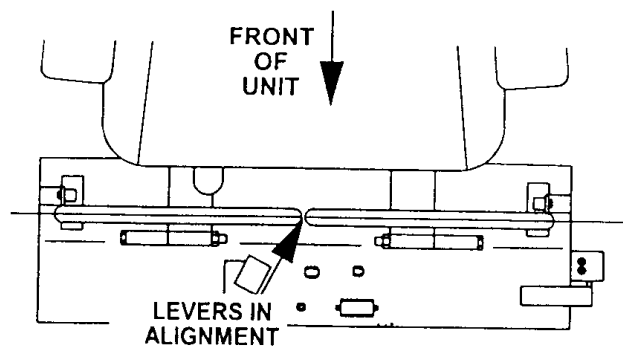

Figure 4
5. If the ends of the levers hit against each other, while in the drive position (Fig 4) (levers rotated in as far as possible) make adjustments by moving the levers outward to the neutral lock position and carefully bend them outward. Move them back to the drive position and check for clearance. Repeat if necessary.